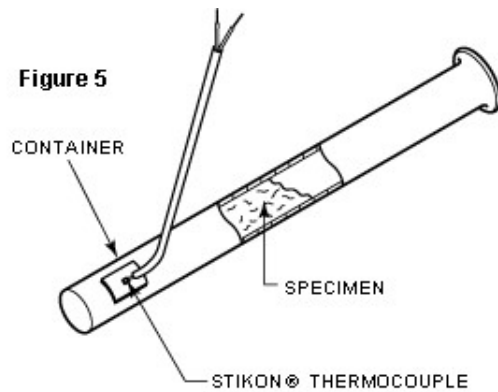

Figure 5
1. Biological Sensor (Figure 5)